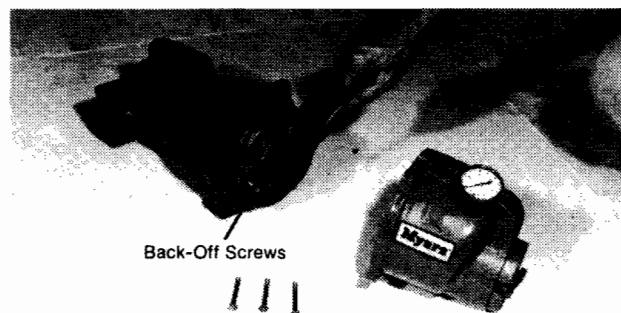

Figure 12
3. Remove 3 bolts from diffuser housing. (See Fig. 12).
4. Tighten two back-off screws to force housing from first stage diffuser. Work alternately on screws to force evenly without binding. (See Fig. 12).